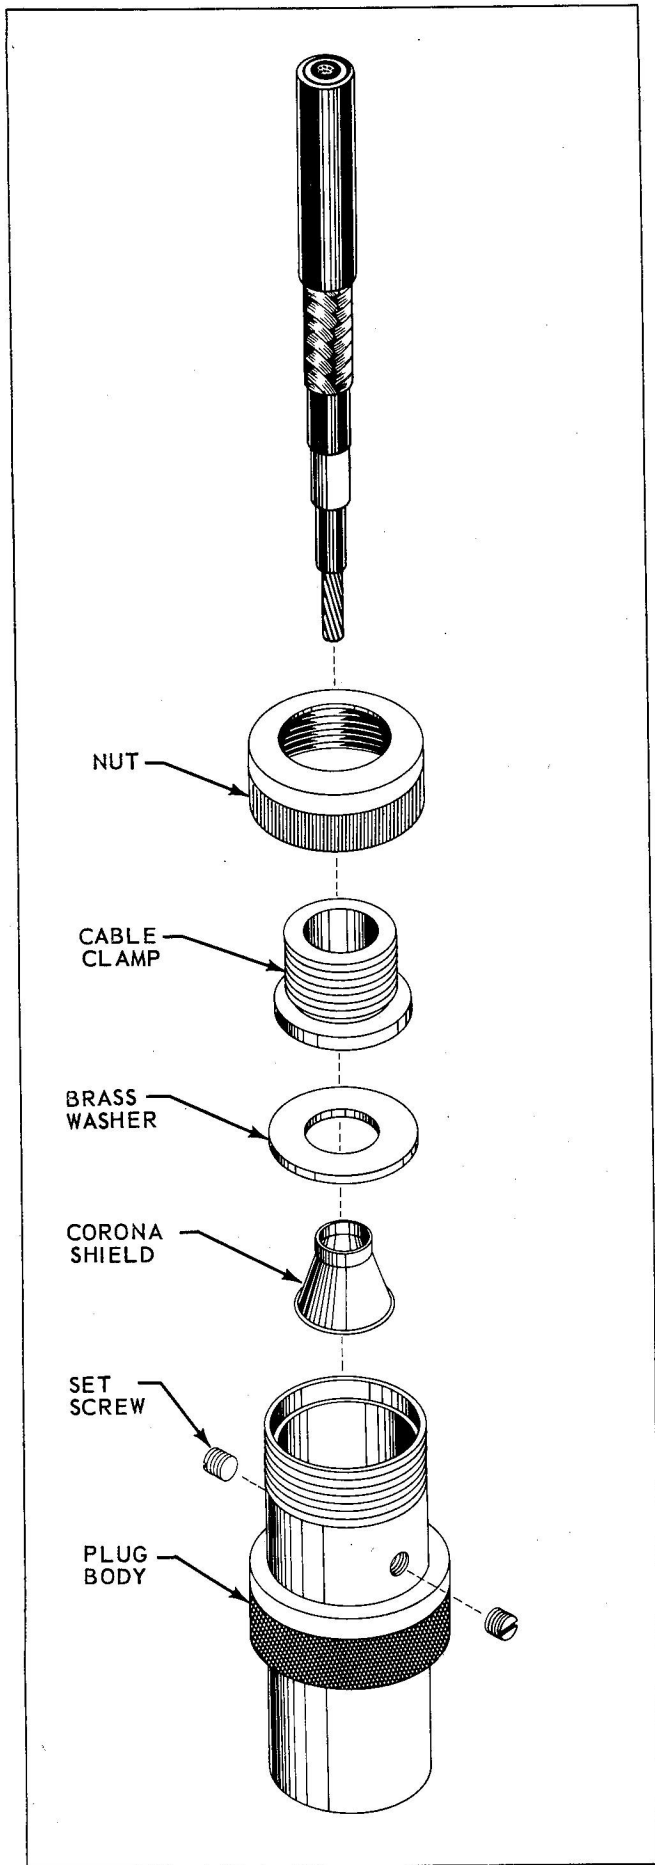

Figure 4-34. Pulse Connector - Ceramic
a. Ceramic Insert Version (See Figure 4-34) - consists of a plug or jack body assembled to coaxial cable with nut, cable clamp, washer and corona shield. Plug UG-174/U is typical of this version.
a. Disassemble nut, cable clamp, washer and corona shield from plug or jack body. See Figure 4-34.